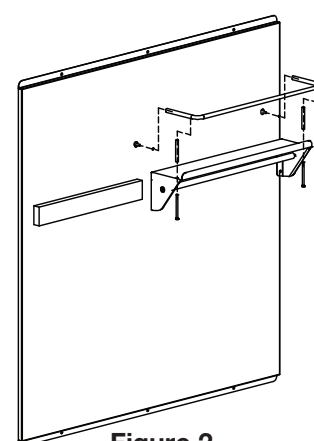

Figure 2
3. Install the rail to backsplash using 2 supplied screws M4×10 (see Figure 2).